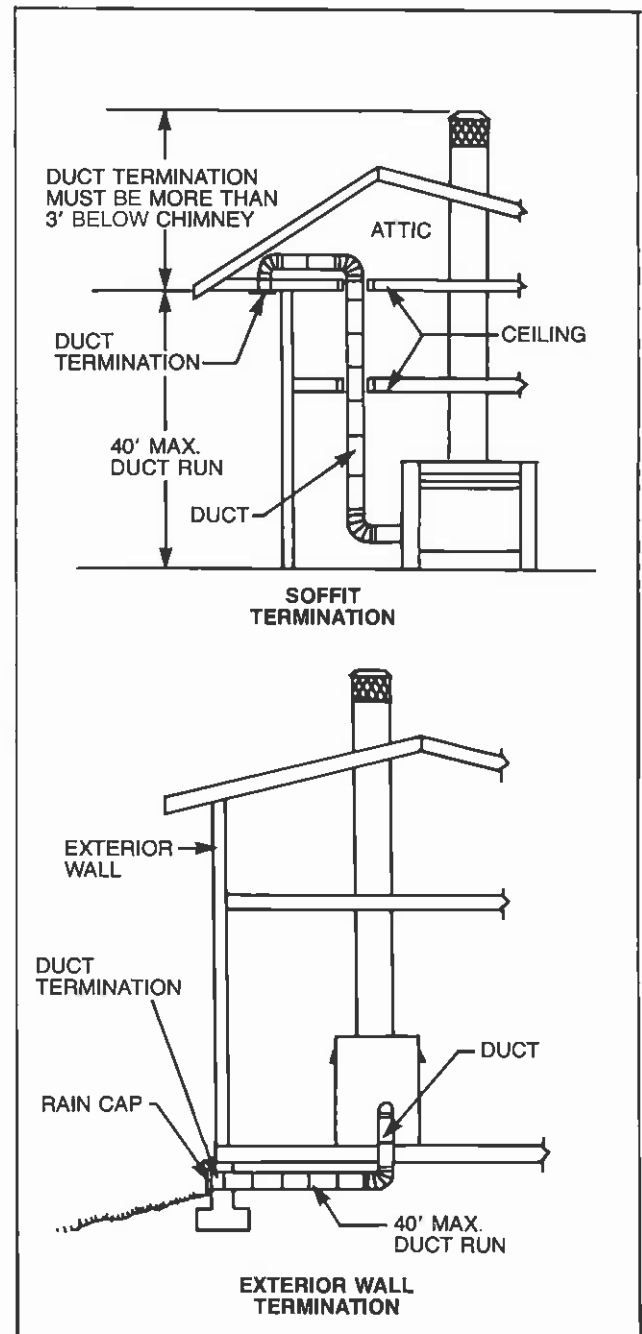

Fig. 2 Typical installations.
Duct run must be limited to a maximum distance of 40 feet from the fireplace pipe collar to duct termination. This will provide the least restriction to air flow. No more than four 90° elbows can be used. Duct run may be horizontal, vertical inclined or any combination of these. Vertical duct runs must be at least three (3) feet below the fireplace chimney flue exit. (See Fig. 2.) You are now ready to install the AK-MST Outside Air Kit.